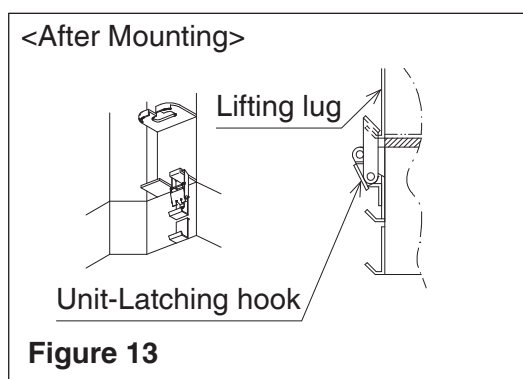

Figure 13
(3) Place the UV streamer air purifier unit and the indoor unit close together and pull down the latches of the unit-latching hooks to lock. (Refer to **Figure 13**.)